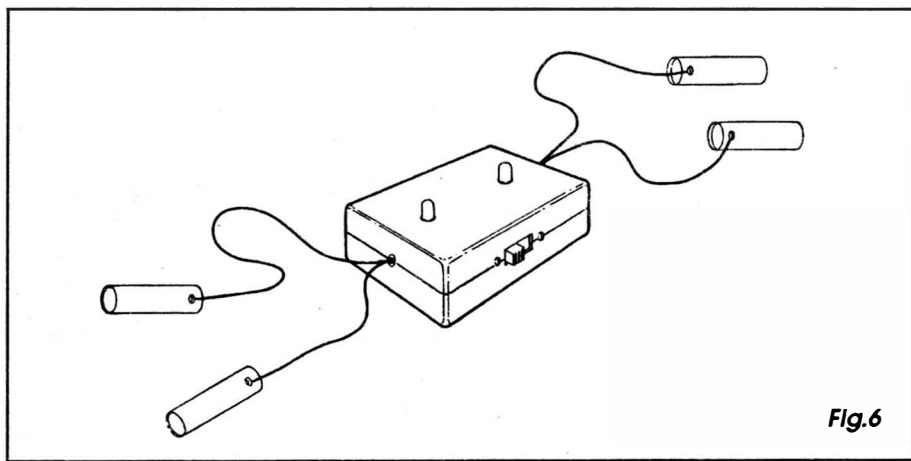

Fig.6
- **FIG. 6 - AGASALHANDO O MEFO...**